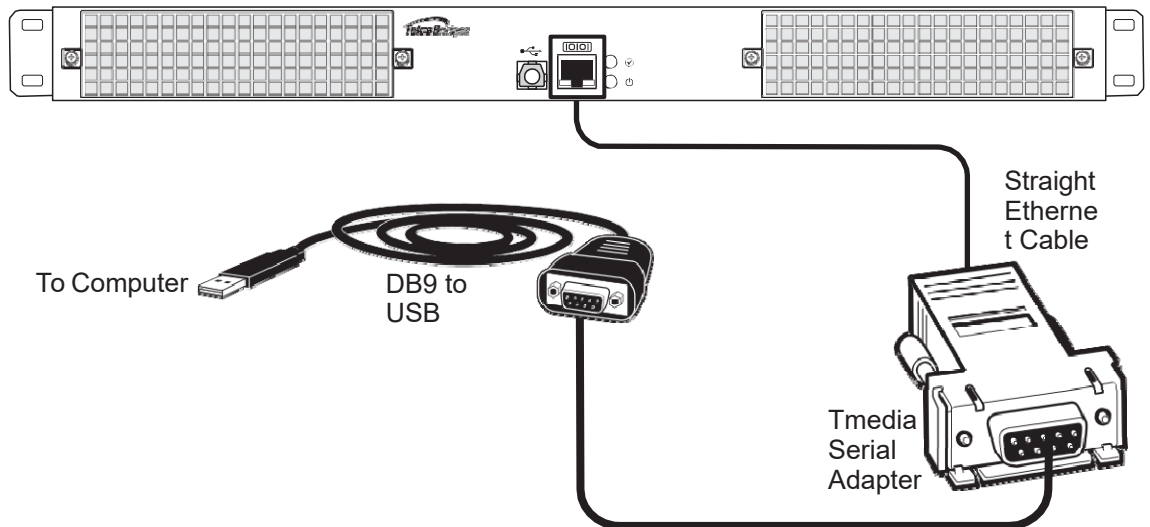

Figure 3.4
2. If your computer's serial port features a DB9 connector, use the Tmedia serial adapter supplied with your 800 series gateway. If your computer's serial port features a USB connector, you will need to provide a USB to DB9 adapter. Refer to figure 3.4 on page 44.